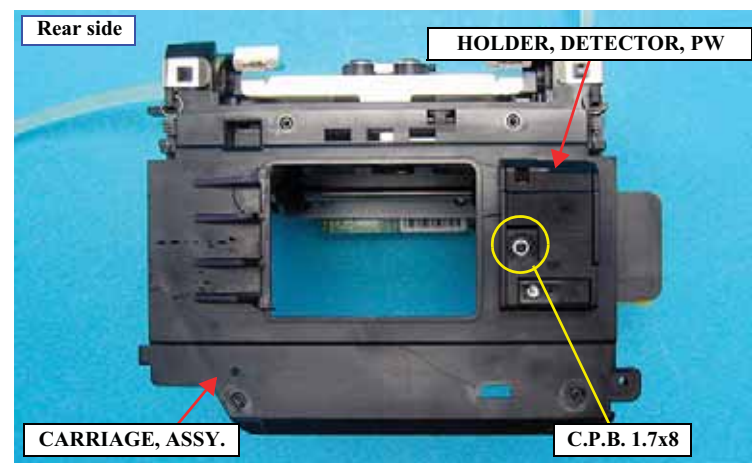

Figure 4-115. Removing the HOLDER, DETECTOR, PW
2. From the rear side of the CARRIAGE, ASSY., remove the screw that secures the HOLDER, DETECTOR, PW. *See Figure 4-115.*